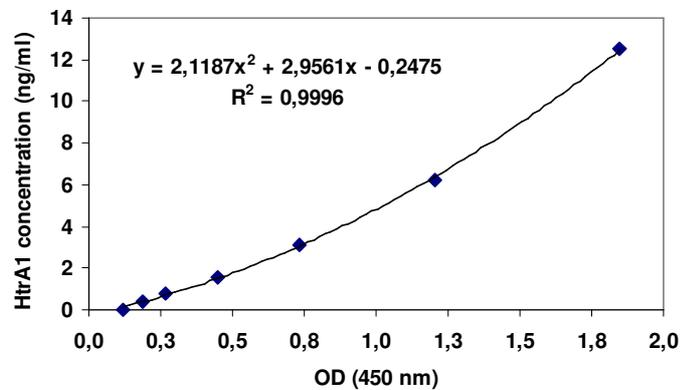

Fig. 2: Typical standard curve (prepared with Assay Buffer).
2. A standard curve is generated by plotting the mean absorbance (x axis) against ng/ml standard (y-axis, fig. 2).